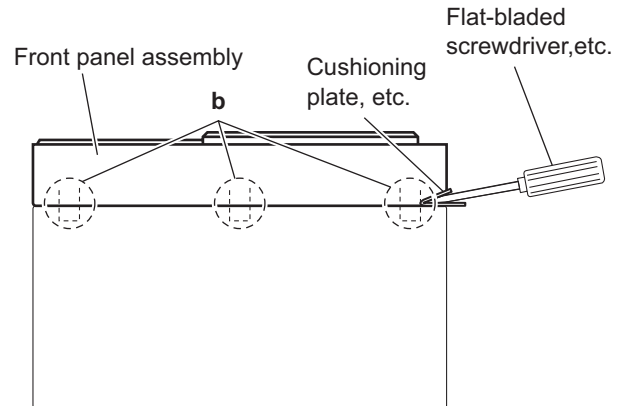

Fig.2
3.4.2 Removing the front panel assembly (See Figs.2 and 3)
- (1) Insert the tip of a flat-bladed screwdriver or similar tool into the space between the speaker main body and front panel assembly, and lift the front panel assembly little by little to remove the sections **b**. (See Fig.2.)
To prevent damaging the front panel assembly and speaker main body, insert cushioning plates etc. into the space between the speaker main body and front panel assembly. (See Fig.2.)